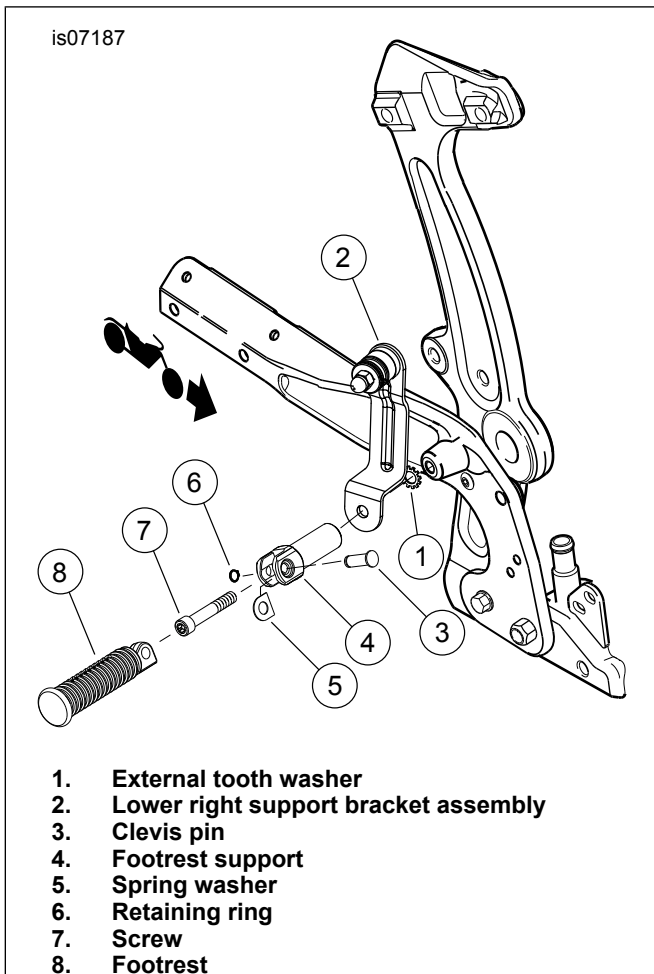
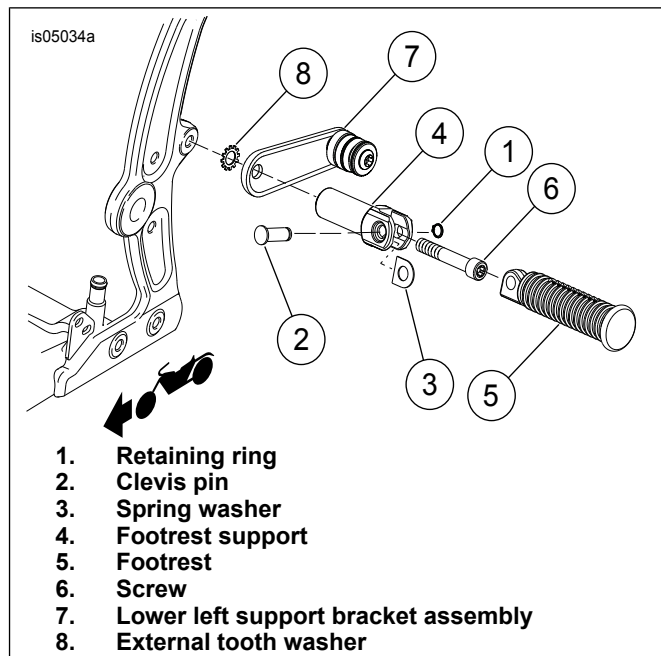

Figure 4. Lower Right Support Bracket Assembly
Figure 5. Lower Left Support Bracket Assembly
1. FXS Models: See Figure 4 or Figure 5. On right hand of the motorcycle, remove the passenger footrest (8) retaining ring (6), clevis pin (3) and spring washer (5).